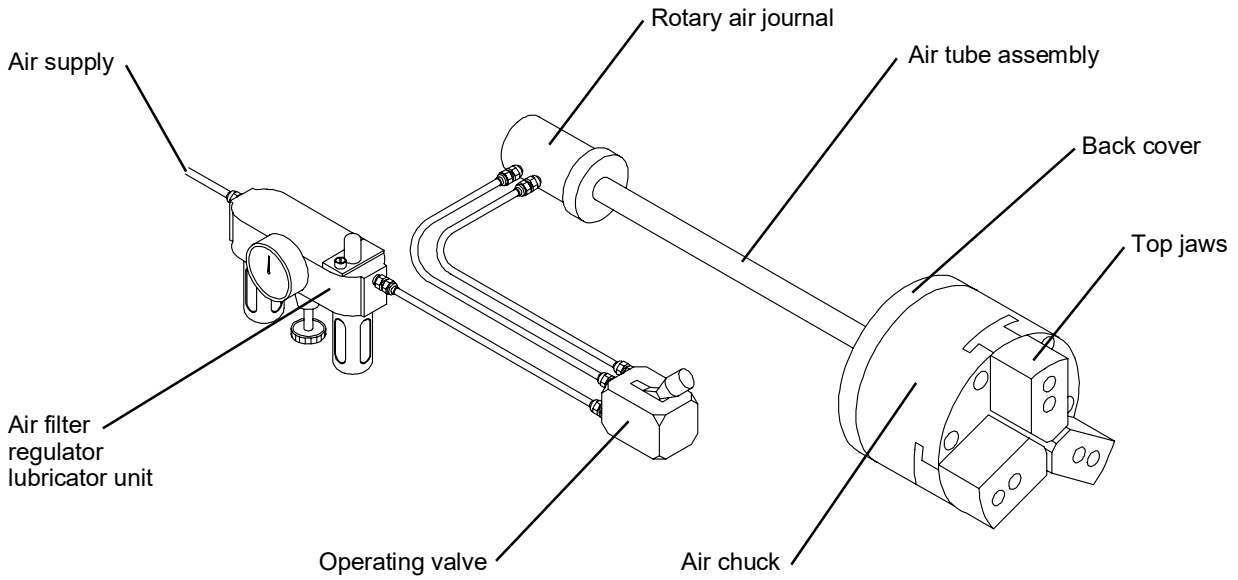

Fig. 1.2
7. Connect control valve, air hoses, and air filter-regulator-lubrication unit carefully as illustrated in fig. 1.2. The usage of an air filter-regulator-lubrication unit is an absolute must, cause otherwise the chuck could be damaged. To actuate the chuck any valve can be used, which observe the valid instructions and laws to avoid accidents. MicroCentric offers corresponding hand-valves, foot-valves and pneumatic control units. Now the chuck should work with low air pressure.